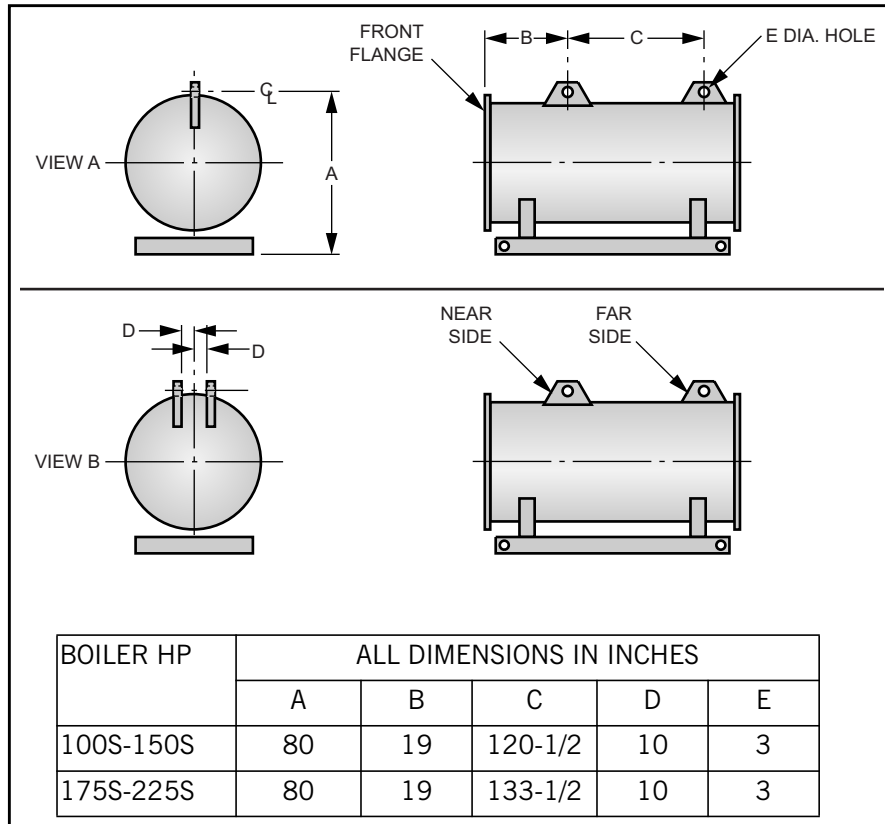

Figure 2. Model CEW Ohio Special Boilers Lifting Lug Location
- Figure 2. Lifting Lug Location, Model CEW Ohio Special Boilers